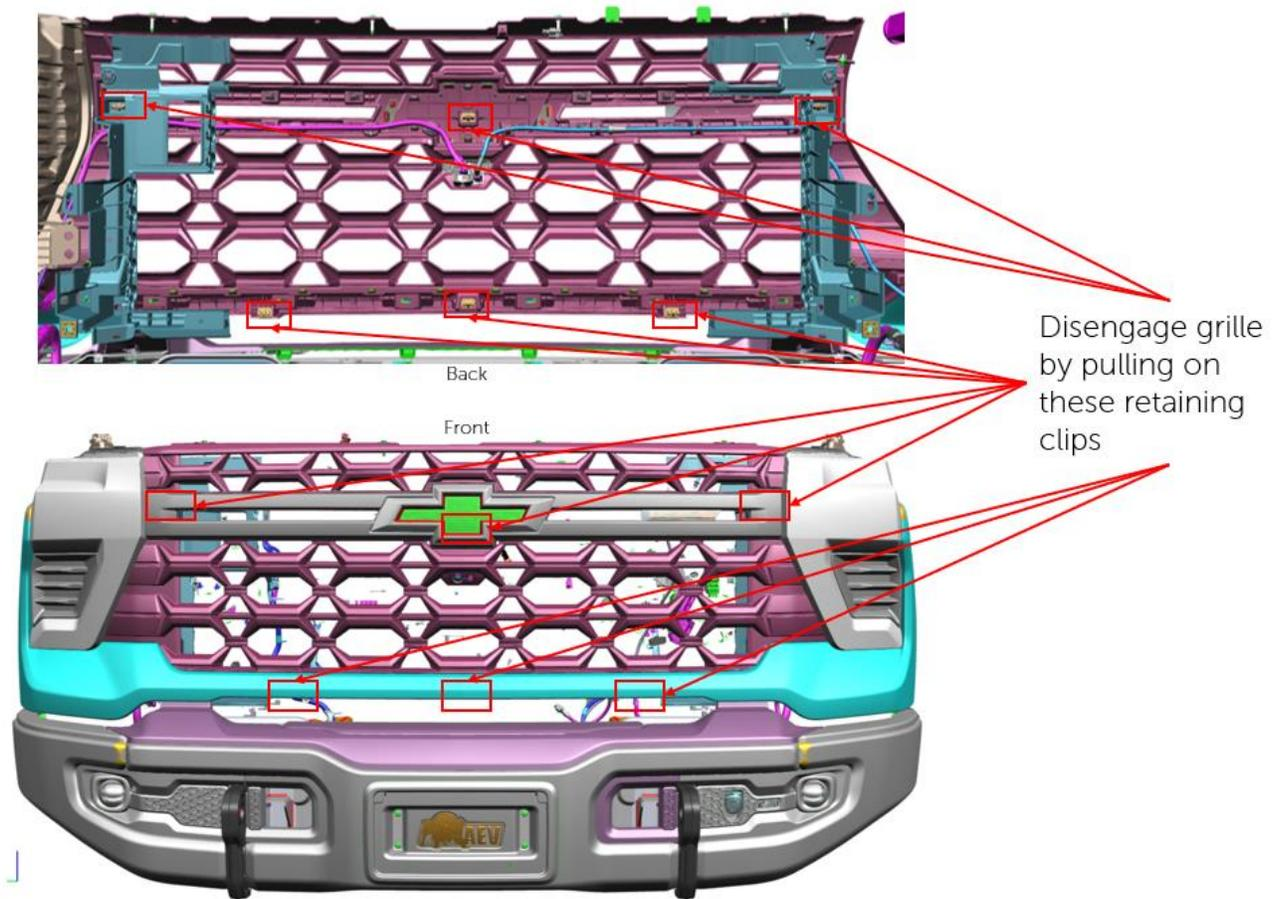

Figure 9
F. Disengage 6 retaining clips of grille fascia from body. – See Fig. 9